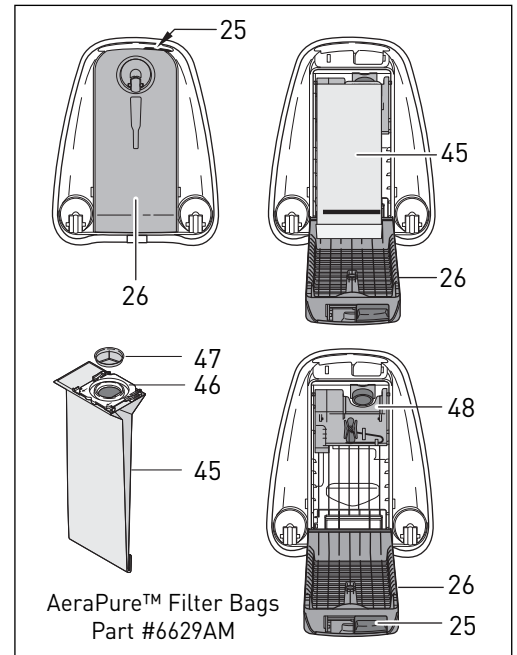

Figure 16
Changing the Filter Bag - Figure 16
Changing the Pre-motor Microfilter - Figures 16 & 18
After 10 to 20 bags have been used, change the pre-motor microfilter (52). To remove the microfilter, set the canister upright (as shown in figure 16). Press the cover release catch (25) and lower the filter bag cover (26). Remove the filter bag, then remove the cover by sliding it up and out of the grooves (53). Pull the old filter out (52) and slide the new filter into the same position. Replace the filter bag, then re-insert the cover by fitting the tabs into the grooves (53) on both sides and sliding it in and down. Push the cover closed, making sure it snaps shut completely.
Remove hose (10) from vacuum cleaner (see figure 21), open the filter bag cover and remove the filter bag. (figure 16, page 9). Clean out entrance to bag (58).